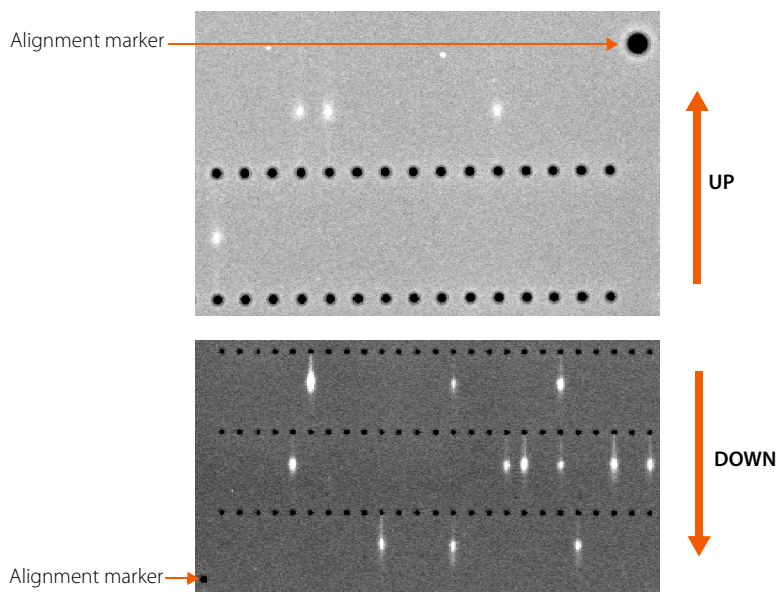
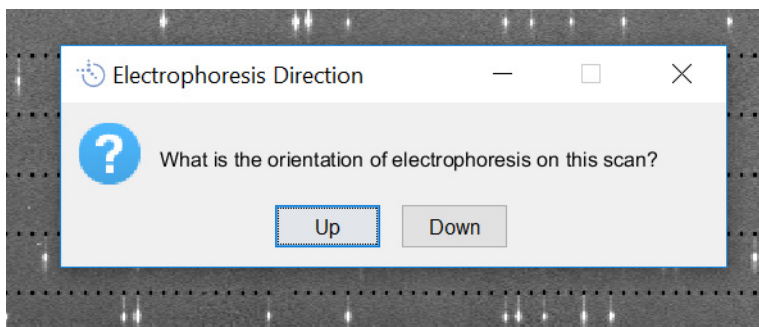

Figure 2-4: Up and down orientations for scWest chip separations.
Figure 2-9: Selecting electrophoresis direction.
Figure 2-4 shows examples of electrophoresis orientation and where the alignment markers are for each.
12. Determine the direction of migration for your single-cell lysates by examining either the top or bottom row of the image to see which direction the separations went. Select **Up** or **Down** in the Electrophoresis Direction window (Figure 2-9). See Figure 2-4 for orientation examples.